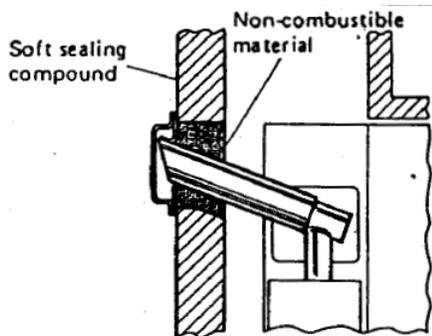

FIG. 7
The opening must be large enough to allow the insertion of a layer of non-combustible material around the extension tube as shown in fig. 7. but the opening in the outer skin must not exceed 70mm (2 ¾") in diameter, otherwise the flange on the flue outlet may not cover it completely.
At this stage, refer to items 10 and 11 in order to prepare for the 12V and bottled gas connections. When these have been made, before finally positioning the flue extension tube (F), ensure that the portion passing through the wall of the vehicle is surrounded by non-combustible material as shown in fig. 7.